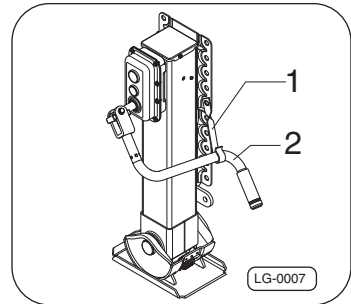

Fig. 7 · Crank function
The crank holder –item 1–, Fig. 7 is fastened either to the rear plate of the support device or to the vehicle frame (depending on how it is fitted) and is used to mount the crank handle –item 2–.